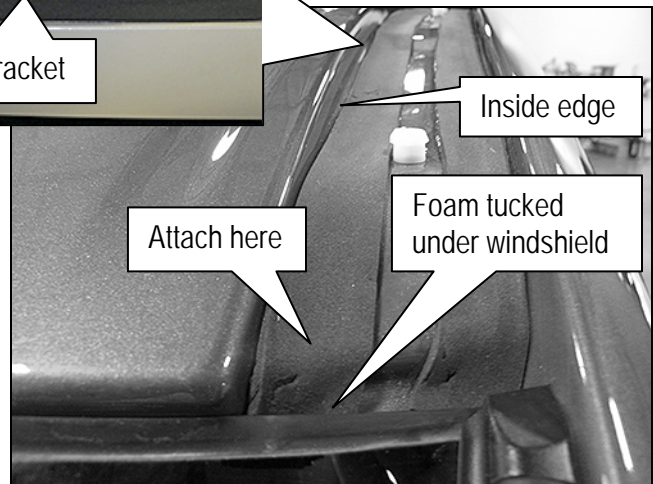

Figure 11
- f. Attach several inches of the second foam strip along the inside edge (Figure 11).
- g. While peeling only enough of the adhesive backing to allow several inches at a time to be attached, apply the strip along the inside edge of the molding recess as shown in Figure 11.